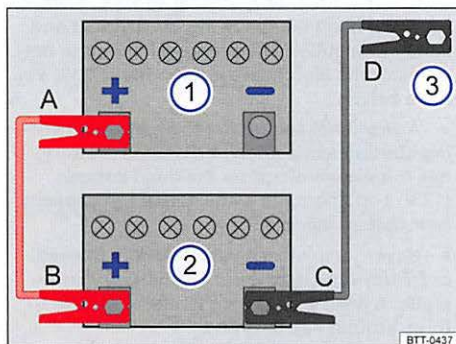

Fig. 178 Diagram for attaching the jumper cables: Dead battery ① and booster battery ②.
- Attach one end of the **red** jumper cable to the **positive terminal** ⇒ **fig. 178** ⊕ of the dead battery: Battery ① ⇒ ⚠.
- Attach the other end of the **red** jumper cable to the **positive terminal** ⊕ of the good battery (booster battery): Battery ②.
- Attach one end of the **black** jumper cable to the **negative terminal** ⊖ of the booster battery: Battery ② ⇒ **fig. 178**.
- Attach the other end of the **black** jumper cable ③ to a **bare metal part of the vehicle with the dead battery**. This part should be connected directly to the engine block. You may also attach the cable to the engine block itself. Attach the clamp to a point that is as far away as possible from the dead battery: Battery ① ⇒ ⚠.